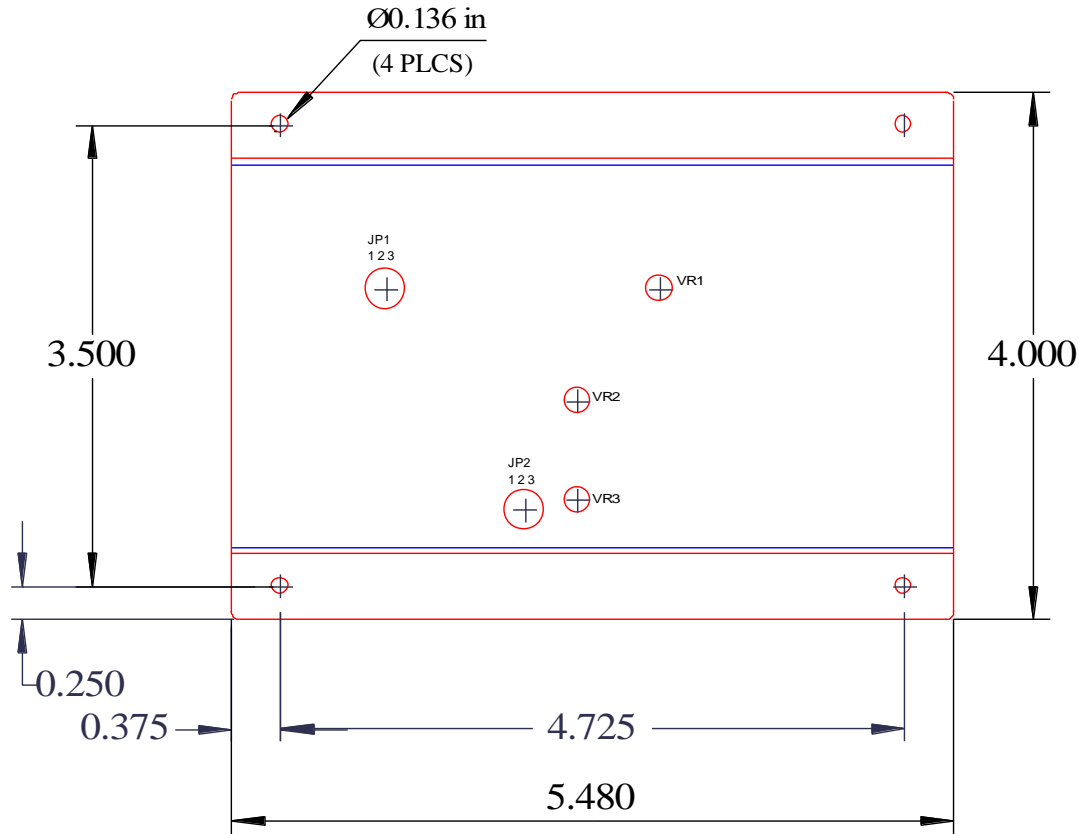

Figure 2-1 Mounting Diagram (not to scale)
The unit is mounted with two mounting flanges. The hole pattern is shown in figure 2-1.
2. See Figure 2-1 for hole locations.